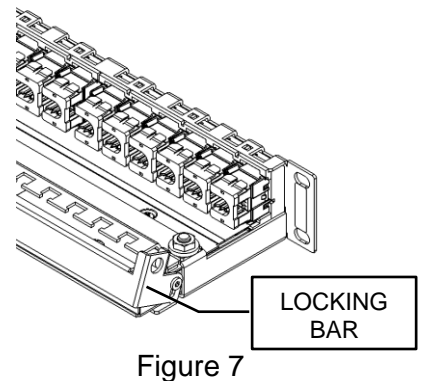

Figure 7
1. Lift locking bar up and rotate locking bar toward the front of the panel to disengage the E-module from the panel (see Fig. 7)